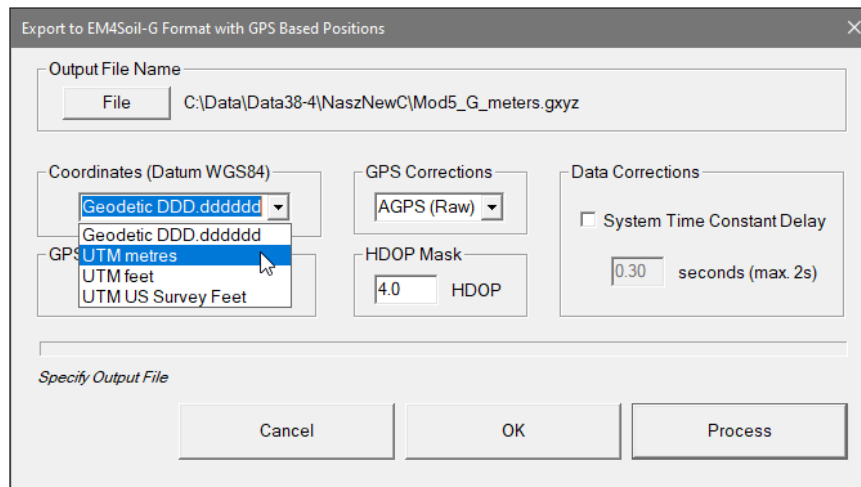

Figure 7.19 Selecting Coordinates in the Export to EM4Soil-G Format with GPS Based Positions dialog
- As with the GPS-based XYZ file option, choose between Geodetic (Latitude/Longitude in degrees) or UTM coordinates (in meters, feet, or US Survey feet) from the combo box labeled Coordinates (Datum WGS84) (Figure 7.19).